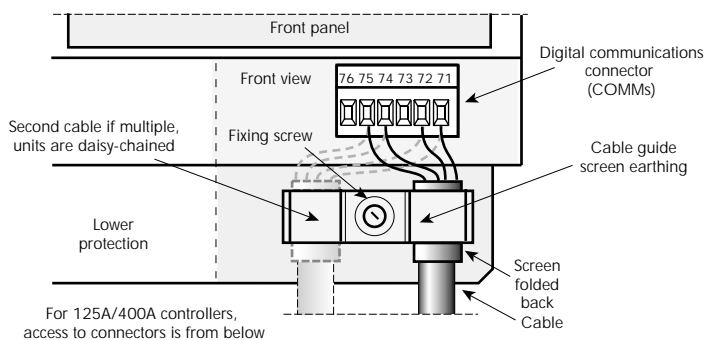

Figure 3-21 Layout of standard communications terminals for 125A to 400A rated units
- from right to left for 125A to 400A rated units (see Figure 3-21).